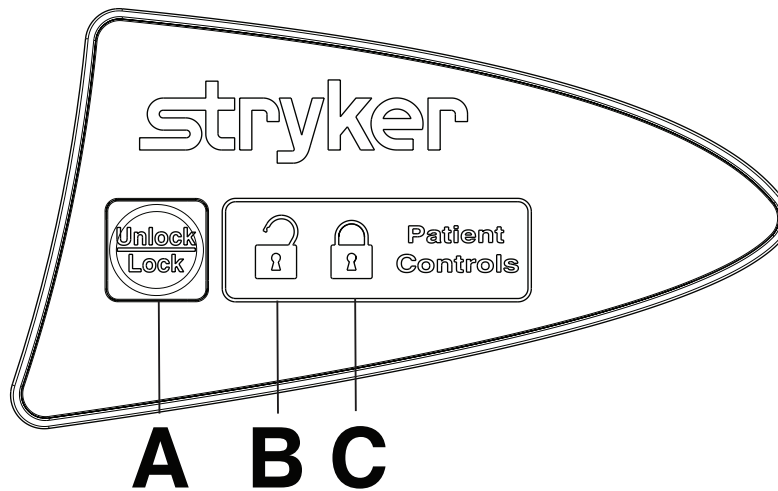

Figure 15 – Patient control panel lockout
To lock the siderail patient control panel, press **Unlock/Lock (A)** once (Figure 15).